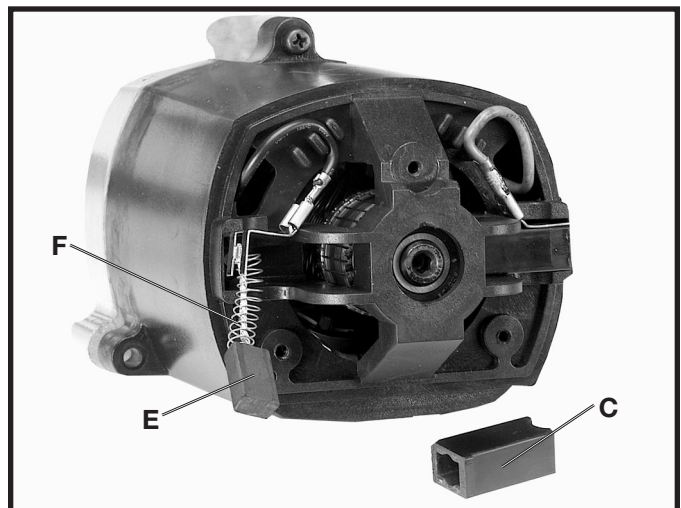

Fig. 48
3. Fig. 48 illustrates one of the brushes (E) removed from the holder (C). When the carbon on either brush (E) is worn to 3/16" in length or if either spring (F) or shunt wire is burned or damaged in any way, replace both brushes. If the brushes are found to be serviceable after re-moving, reinstall them in the same position.